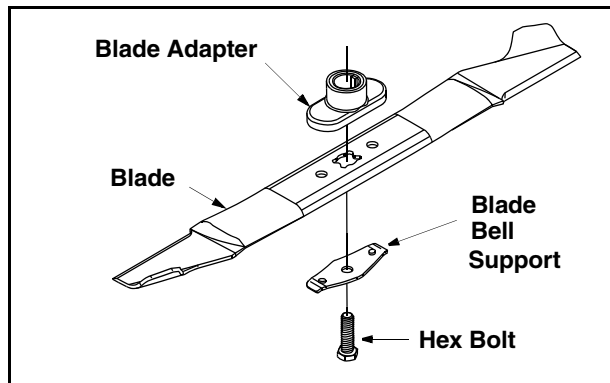

Figure 12
- Remove the bolt and blade support which hold the blade and adapter to the engine crankshaft. See Figure 12. Remove the blade and adapter from the crankshaft.
- Install the blade adapter on the crankshaft with the “star” away from the engine. Refer to Figure 12. Place the blade with the side marked bottom (or with part number) facing away from the adapter.